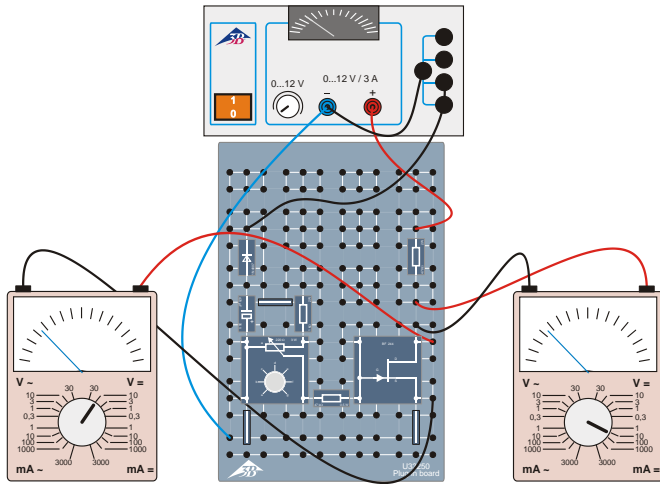

Fig. 4: Voltmeter between drain and source.
- Now connect the voltmeter between the drain and the source. Connect the positive pole to the drain (Fig. 4).